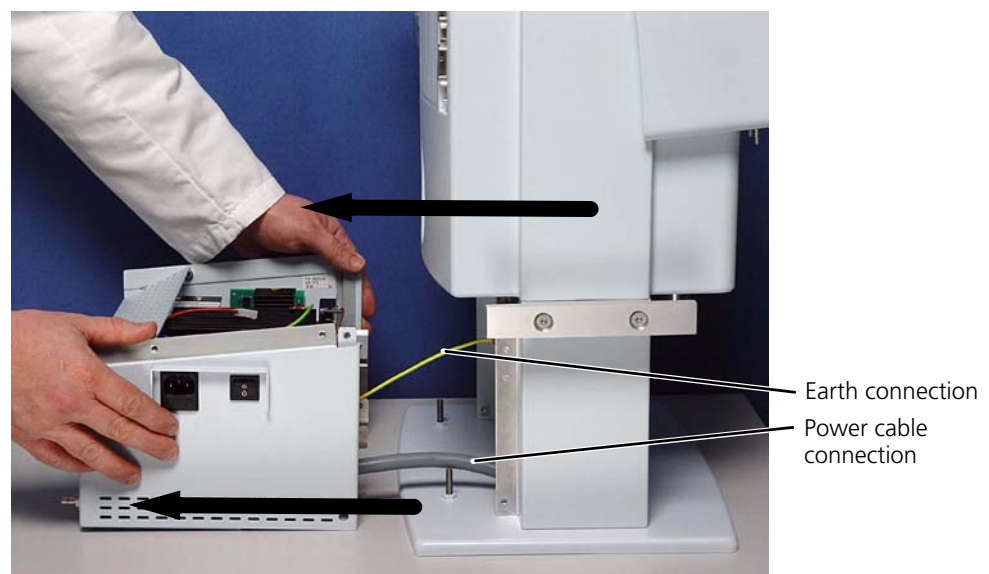

Figure 11-10. Sliding the power supply away from the column
5. Slide the power supply and battery container away from the column (Figure 11-10).